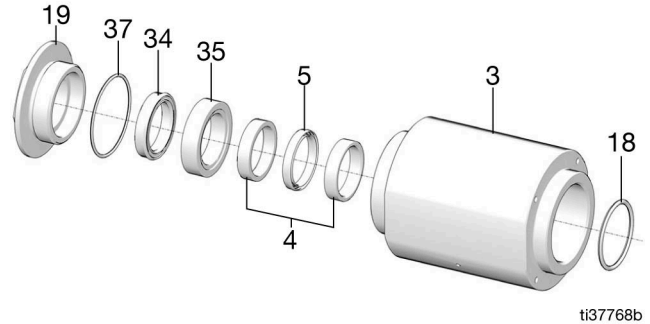

FIG. 17
1. Replace the o-ring face seal (18) with a new one from the seal kit (FIG. 17).
2. Replace the backup throat seal (34) with a new one from the seal kit (FIG. 17).
3. Replace the throat seal (5) and the throat seal back-up rings (4) with new parts from the seal kit (FIG. 17).